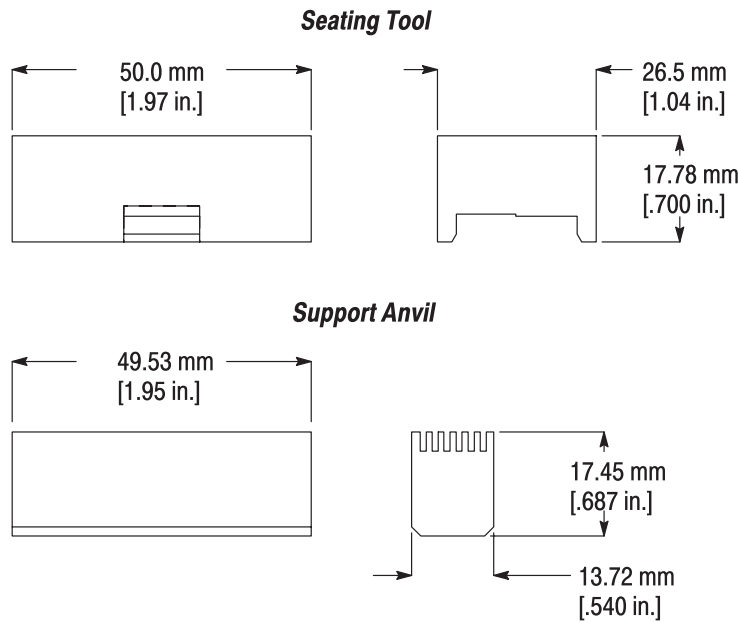

Figure 3
The seating tool and support anvil are inspected before shipment. It is recommended that the tool and support anvil be inspected immediately upon its arrival at your facility to ensure that it has not been damaged during shipment. Refer to Figure 3 for dimensions.
- Changed length of support anvil in Figure 3